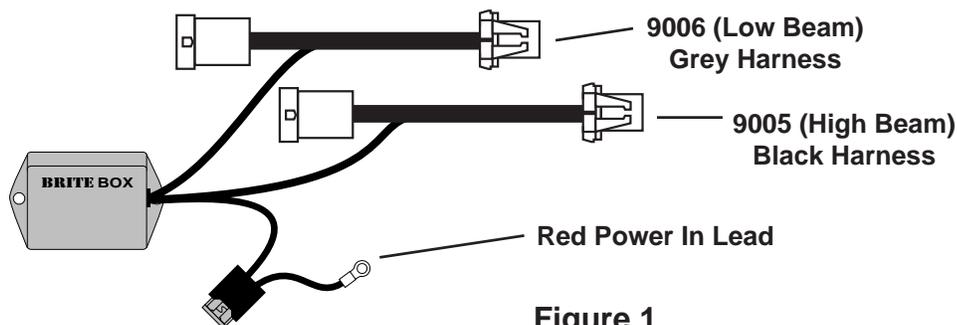

Figure 1
**STEP 2:** Find a suitable location to mount Brite Box on inner fender of vehicle near battery. Make sure the low and high beam harnesses from Brite Box (see figure 1) can be run to the vehicle's headlight wires. The red wire (attached to fuse holder) of Brite Box must be able to reach positive (+) power lug near main underhood fuse box of truck.